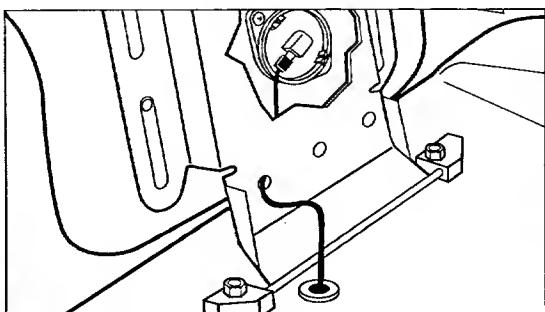

Figure 2-7:
1. Attach the electrical connector at the bottom of the seat to the wire harness connector coming out of the middle of the rear fender assembly. See Figure 2-7. *These two connectors must be securely plugged together for safety reasons—they allow the automatic engine shutoff feature to work if you leave the operator's seat without turning off the engine or engaging the parking brake. The wire harness must also move*